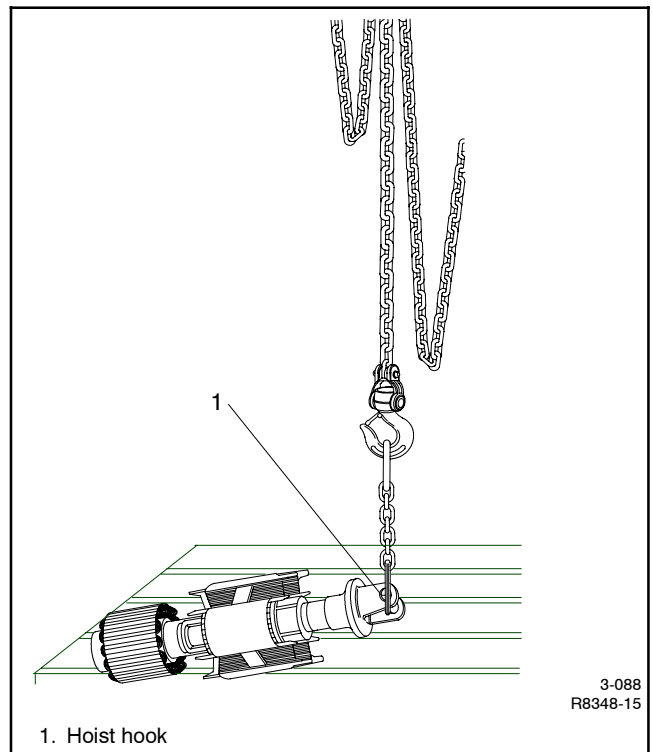

Figure 4-14 Hoisting Rotor
10. Fasten the lifting eye and hoist hook to the rotor flange. See Figure 4-14. Hoist the rotor to a vertical position taking care not to damage windings, laminations, or bearing.